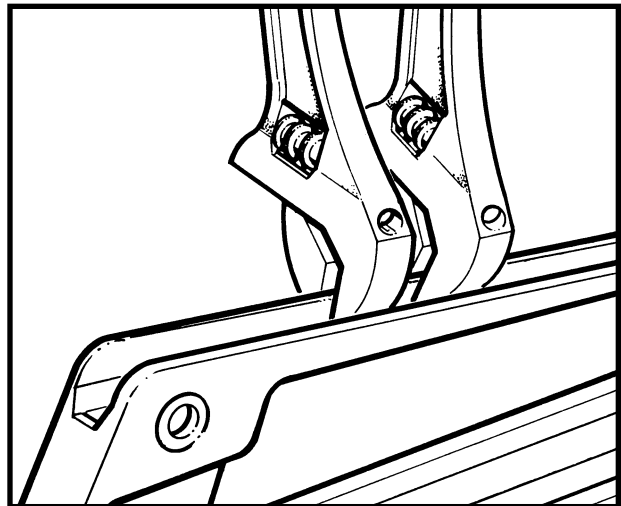

Figure 3-2-27 Straightening the Carrying Handle
- (1) Remove rear sight components if damage may result during repairs to the carrying handle;
- (2) Clamp the receiver, by the carrying handle, in a vise fitted with protected jaws;
- (3) Using two 6 inch adjustable wrenches, straighten the bent carrying handle. See Figure 3-2-27;